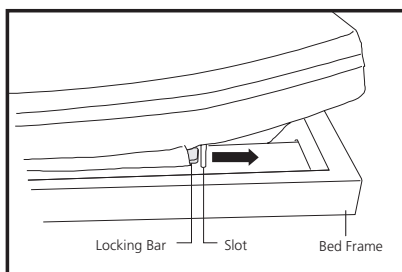

Figure 2
3. Slip end of locking bar into slot on head-end of bed frame, as shown below (Figures 2 and 3).